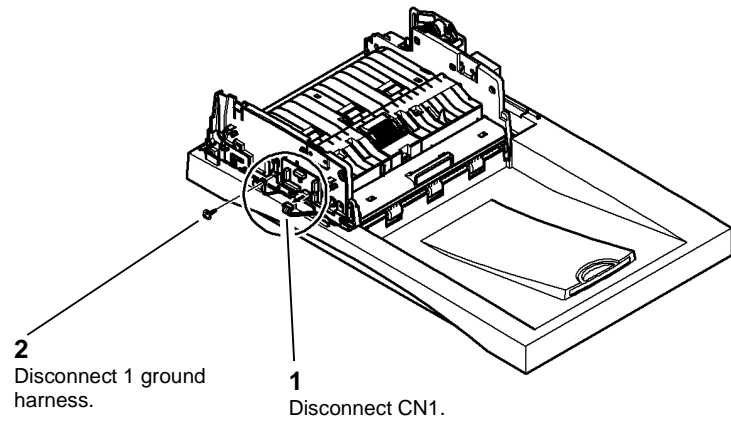

Figure 12 Preparation
13. Prepare to remove the document transport, Figure 12.